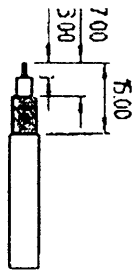

Figure 1
1) Slide crimp sleeve over cable. Strip the cable to the dimensions shown in figure 1